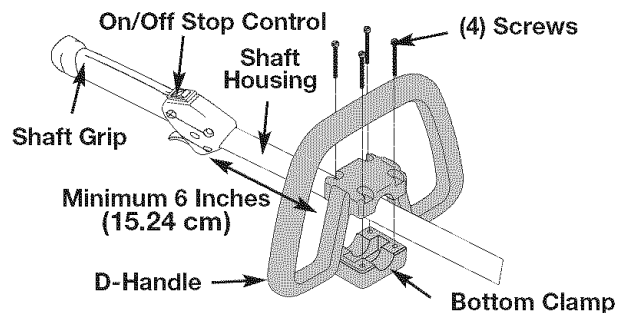

Fig. 1
1. Place the D-handle down on to the shaft housing and the bottom clamp so that the handle slants toward the shaft grip (Fig. 1). Place handle and clamp a minimum of 6 inches from the end of the shaft grip.